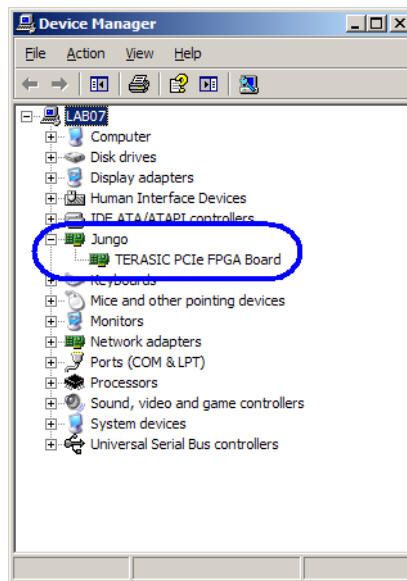

Figure 7-11 Device Manager
5. Once the driver is successfully installed, users can view the device under the device manager window shown in **Figure 7-11**.